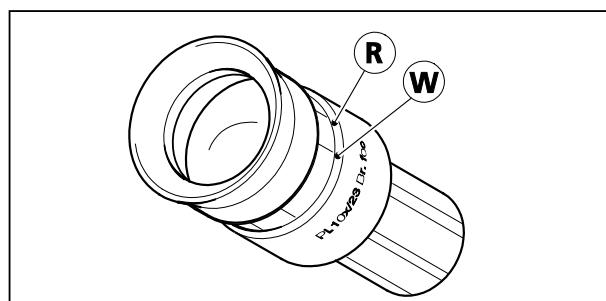

Fig. 32 Adjusting the eyepieces
-  "0" to the white dot (without eyepiece reticle) "0" to the red dot (with eyepiece reticle), see Fig. 32.